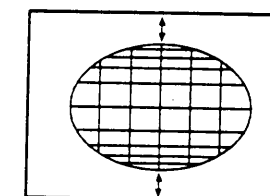

Fig 6.
- d: Adjust the S-correction to obtain a balance between upper, lower and centre (fig. 6).